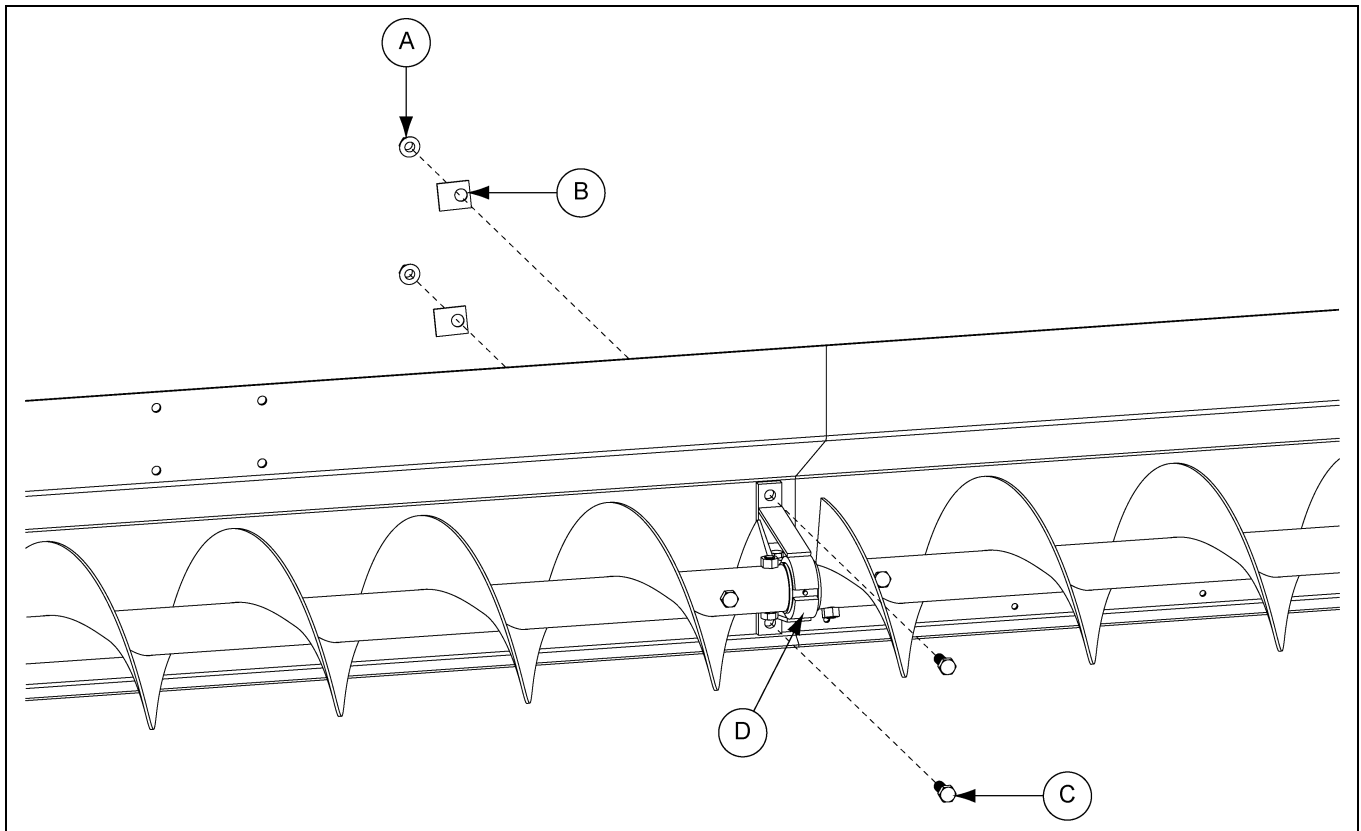

Figure 7U
1. Roll flight assembly to sweep shield and align hanger bearing mounting holes. *(See Figure 7U.)*